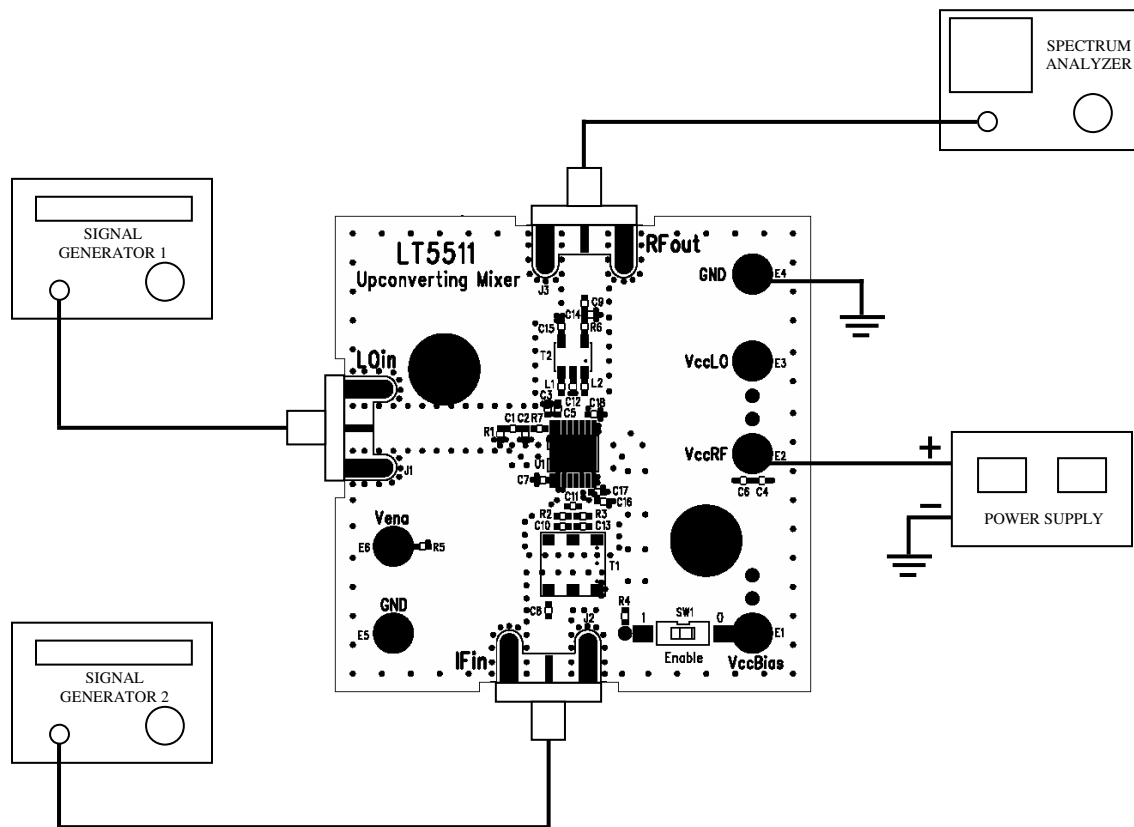

Figure 2. Test Set-Up for Mixer Single-Tone Measurements
1. Connect all test equipment as shown in Figure 2.